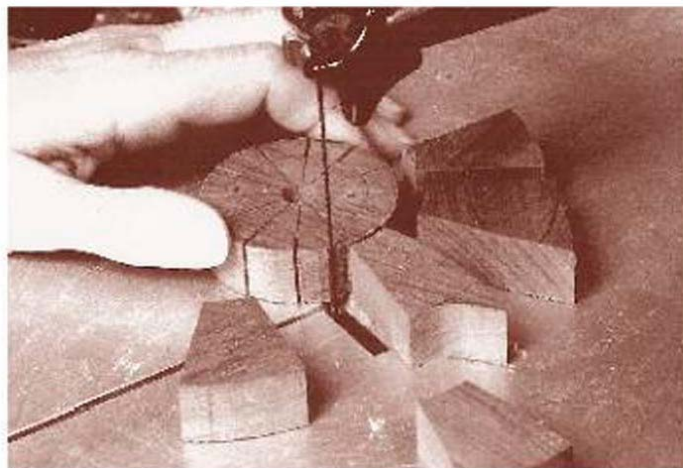

FIGURE 18-5
- 5** Lastly, move to the scroll saw and cut around the outer circle so that you finish up with the hub wheel (Figure 18-5).